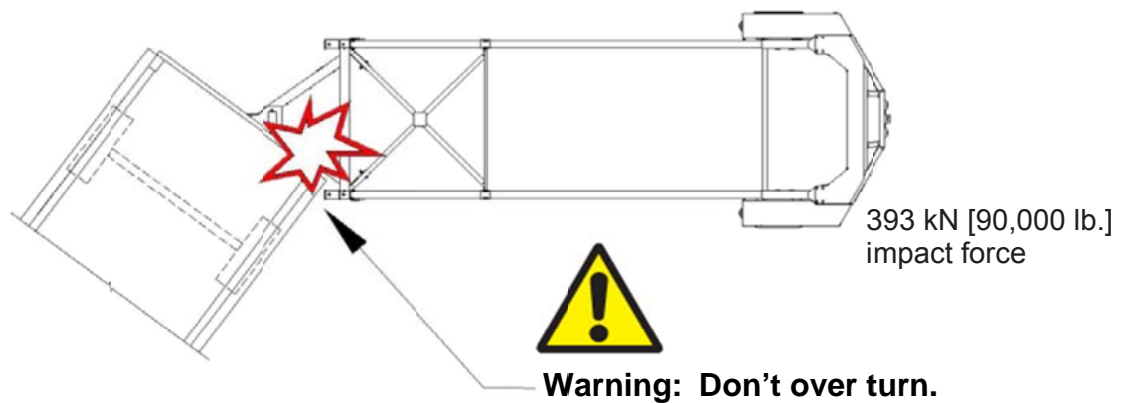

Figure 42
5. Be careful of trailer corner-cutting when turning corners or next to objects such as guardrails (see Figure 42).